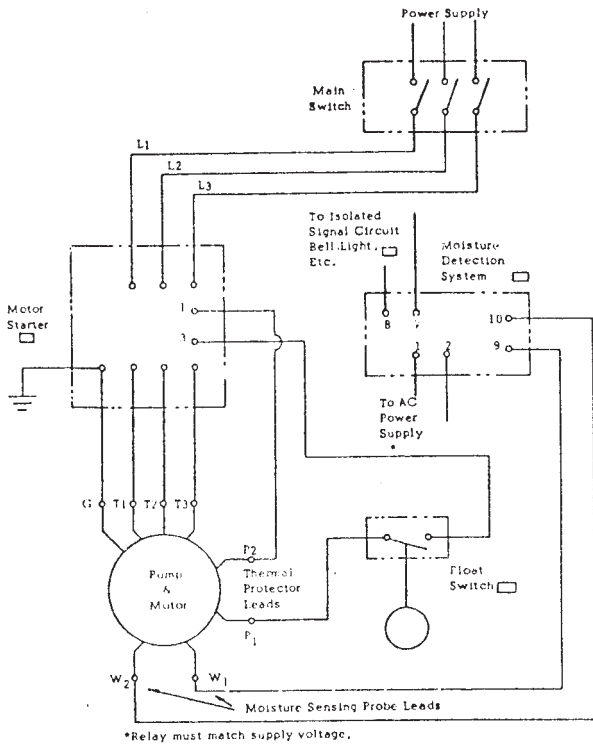

Figure 2
- B. Motor—Refer to motor description and cable identification on Page 4. Connect the leads of power cable to the power terminals of the starter and the ground wire to ground. Connect the two leads marked P1 and P2 of the control cable to the CONTROL CIRCUIT of the starter. See wiring diagrams, Figures 2 & 3, for simplex or duplex installations.